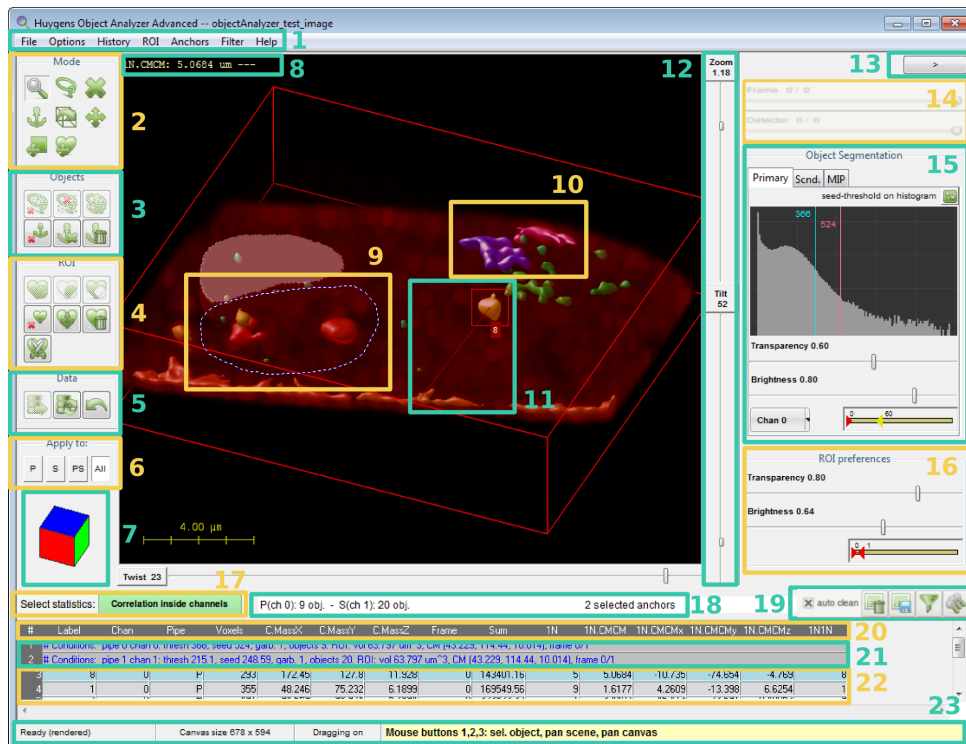

Figure 29.1: The Object Analyzer interface. Different regions are enumerated to describe them in sections of this chapter.
The OA main window is shown in Figure 29.1 with most of its components in an active state. Different regions of the interface are enumerated to describe them conveniently along this chapter.
For the advanced users: some of these mouse modes have ‘shortcuts’. Most of the times you can ‘pan scene’ independently of the selected mouse mode if you use your mouse right button instead of the left one. Similarly, you can ‘pan canvas’ using the middle button at any time. When a mouse mode is active and the cursor is inside the canvas, the tooltip in the status bar (See Figure 29.1, item 23) shows you what each mouse button can do.